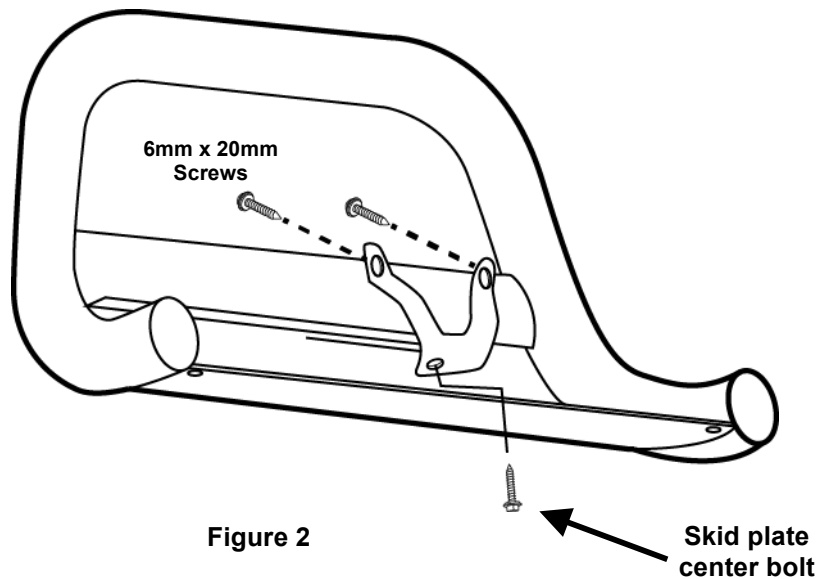

Figure 2
3. Remove center skid plate bolt from Bull Bar. Position Relocation Bracket against cross tube and on top of skid plate. Attach Relocation Bracket to bull bar using the skid plate bolt removed in this step (Figure 2). Tighten at this time.
4. Attach license plate to Relocation Bracket using the included (2) 6mm x 20mm Screws. Tighten at this time.